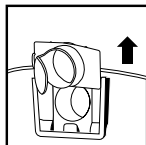

FIGURE 26
39. Remove the inlet deflector from the deflector guide. **NOTE:** Hose must be removed before the inlet deflector can be taken out. **FIGURE 26.**